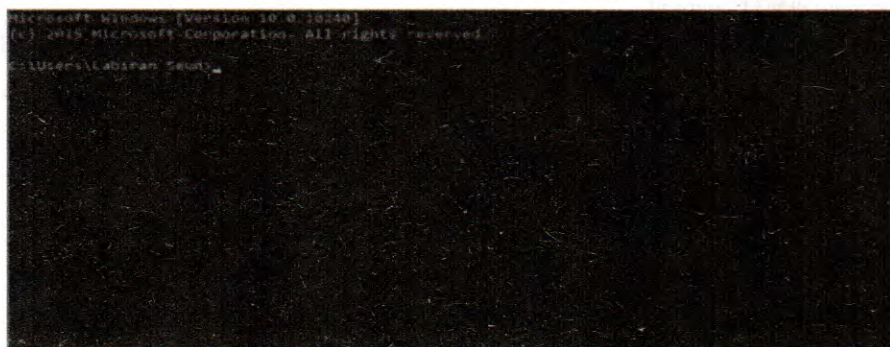

Figure 1.4: Command Prompt Interface
- v. On the host labeled B1, start the command prompt (DOS prompt) application. You should see a screen with a prompt awaiting command as shown in Figure 1.4.